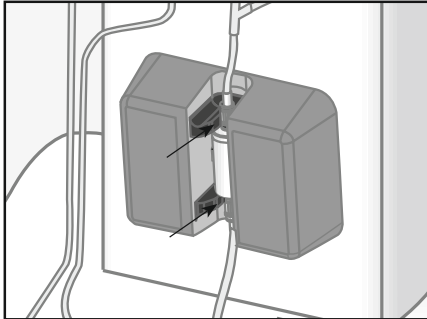

Figure 4-3.2: Separation column in separation column holder
3. Insert the separation column into the separation column holder as shown (see Figure 4-3.2).